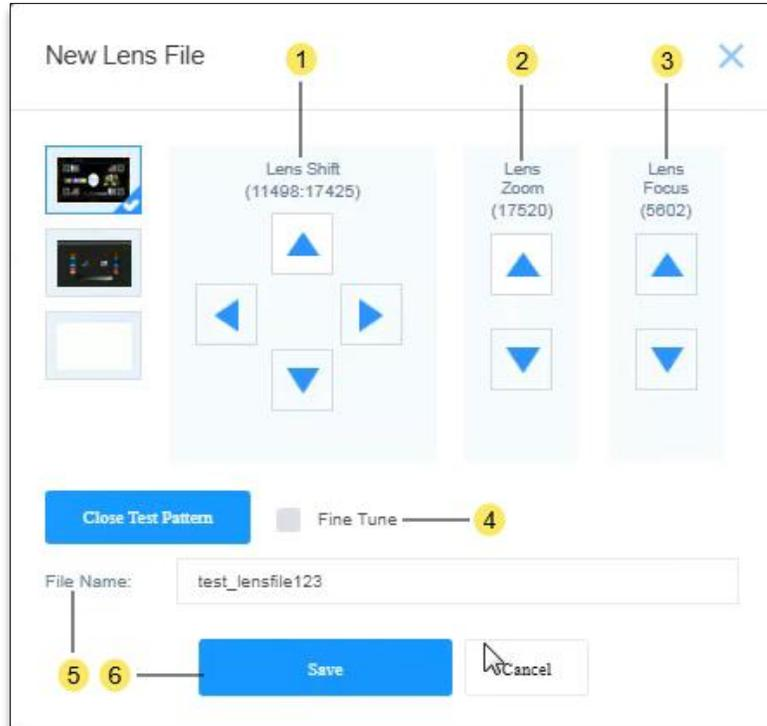

Figure 29:
| ① | New Lens File | Click on this button to create a new Lens file, as shown in Figure 29 . This button is enabled when you set the Lens file. |